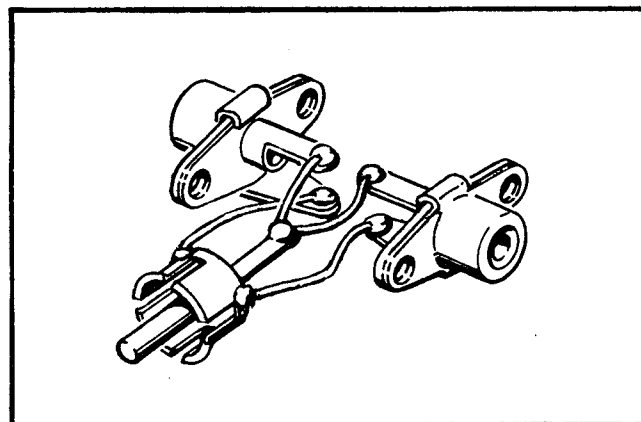

Figure 1. I.F. Output Adaptor
1. Construct an adaptor as shown in Figure 1.